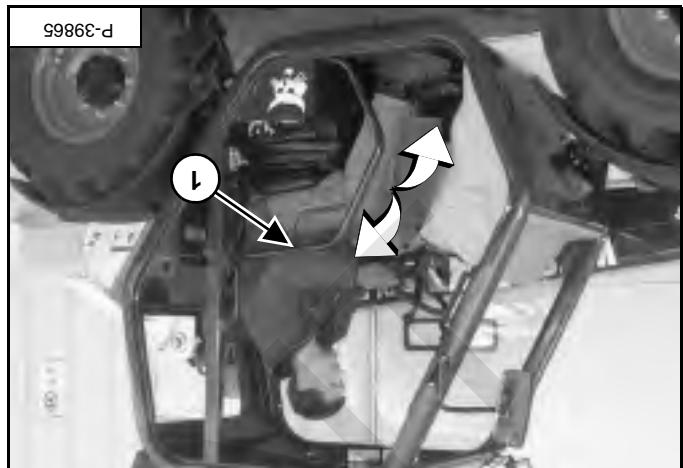

Figure 148
[Figure 148] (if equipped), and engage the parking brake. Fasten seat belt and lower the restraint bar (item 1)